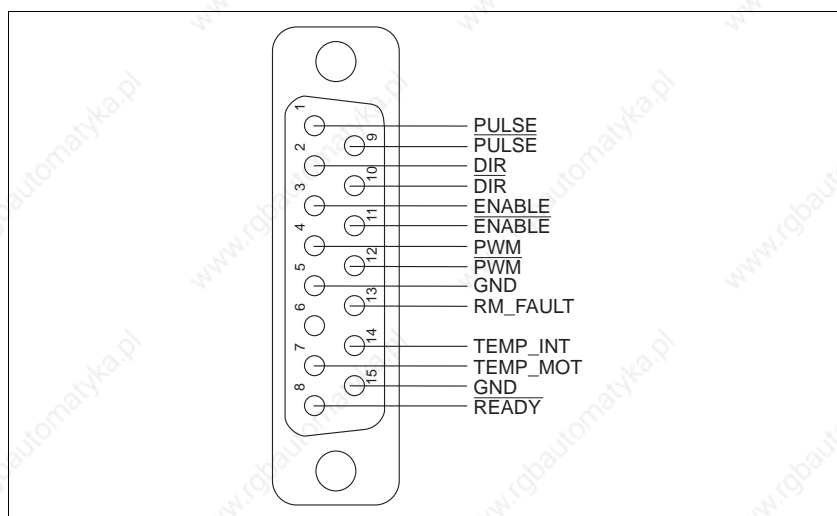

Fig. 2-2 Power controller connection - device end
1. Solder the litz wires to the connector as illustrated in fig. 2-2.